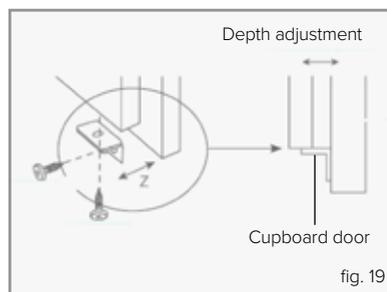

fig. 19
1. Loosen the depth adjustment screw (C).
2. Move the fascia in or out, as required; this gives an adjustment of approximately 3mm. the lower fascia brackets are slotted to allow alignment of the fascia at the bottom. This is shown in figure 19.